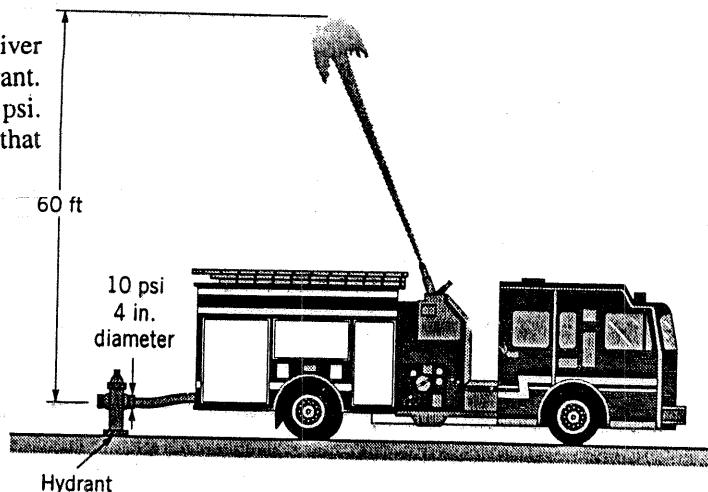

FIGURE P5.107
5.107 The pumper truck shown in Fig. P5.107 is to deliver  $1.5 \text{ ft}^3/\text{s}$  to a maximum elevation of 60 ft above the hydrant. The pressure at the 4-in. diameter outlet of the hydrant is 10 psi. If head losses are negligibly small, determine the power that the pump must add to the water.